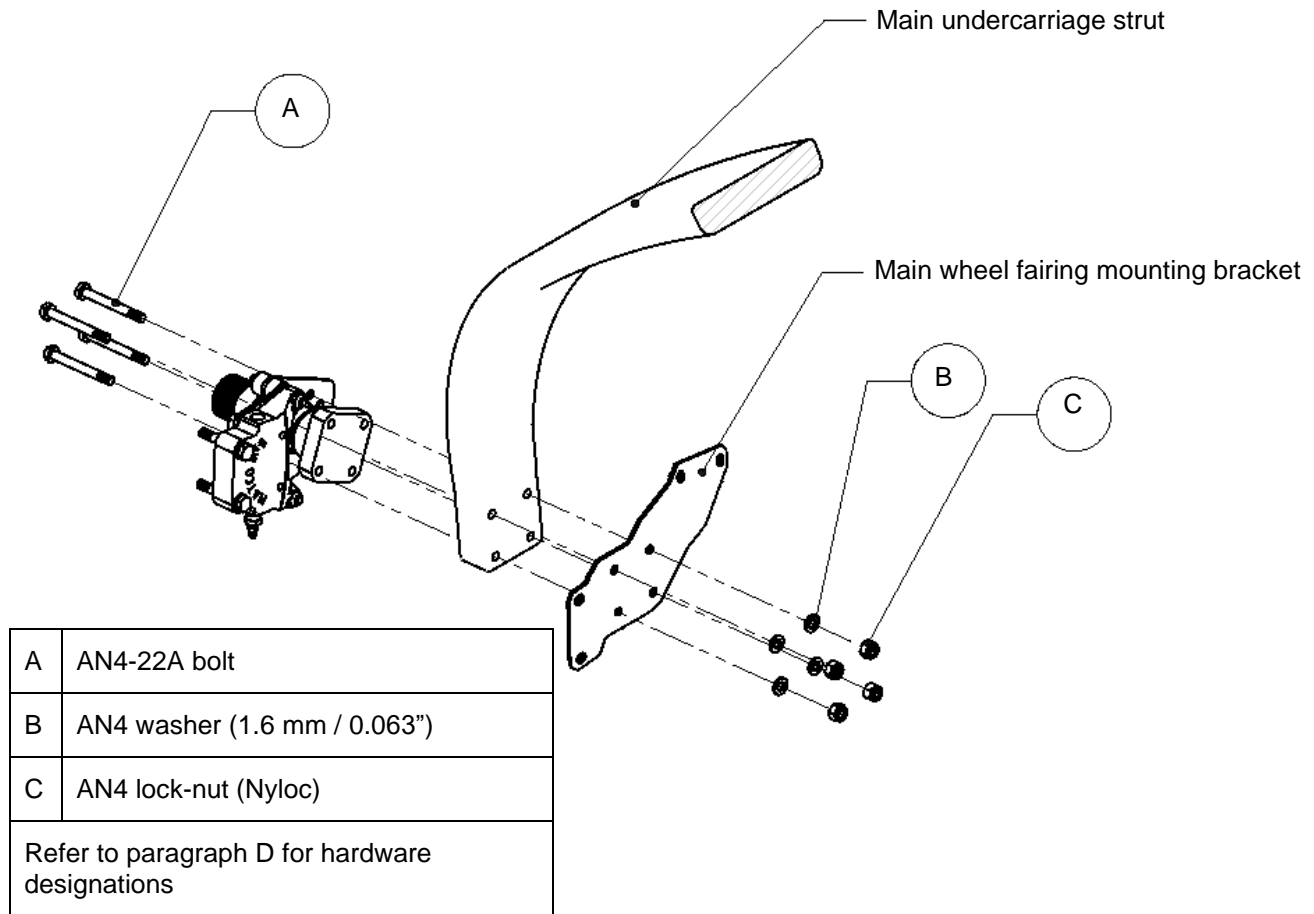

Figure 42: Main wheel axle installation.
- Tighten the lock-nuts and bolts mounting the axle, brake assembly and fairing mounting plate to the undercarriage strut sufficiently. Observe the correct placement of washers (refer to Figure 42) and note that the bolts are installed with their heads facing the wheel.